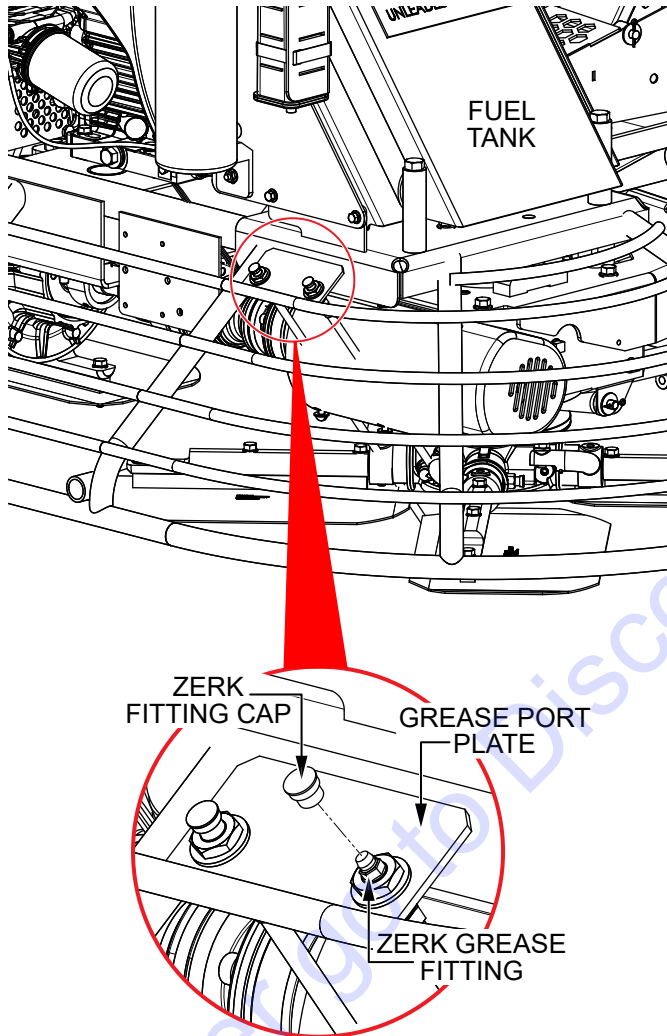

Figure 42. Pillow Block Bearing Lubrication
1. Locate the grease port plate (Figure 42) at the rear of the trowel, just behind the fuel tank. These two Zerk grease fittings lubricate the pillow block bearings.